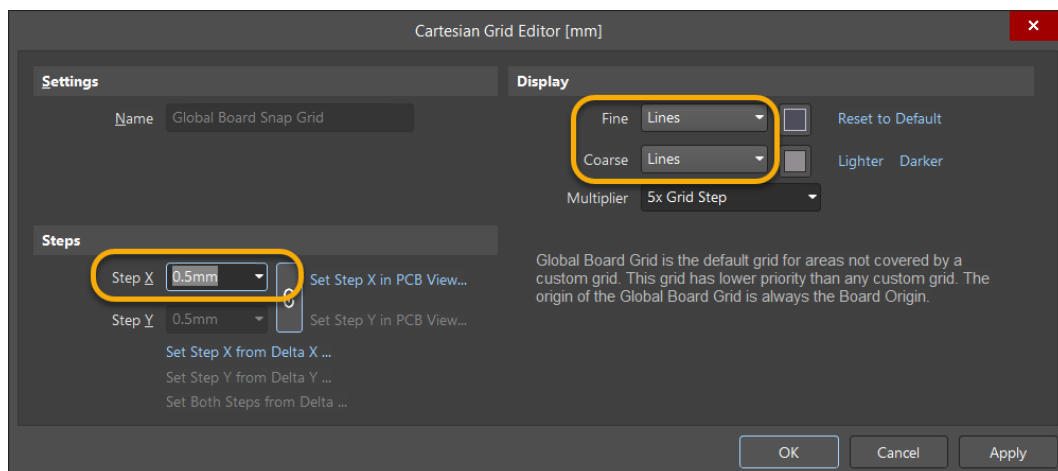

Figure 25. Grid Editor
- c) Change the *Display* option to **Lines**, see Figure 25.